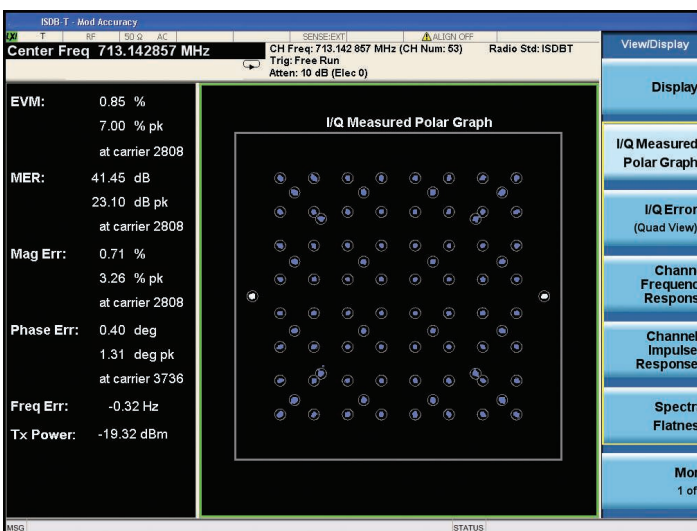

Figure 11. Modulation accuracy measurement with I/Q measured polar graph view
View the I/Q measured polar graph (Figure 11)	[View/Display] {I/Q Measured Polar Graph}
- **I/Q measured polar graph view** (Figure 11): A view of I/Q measured data of the selected sub-carriers